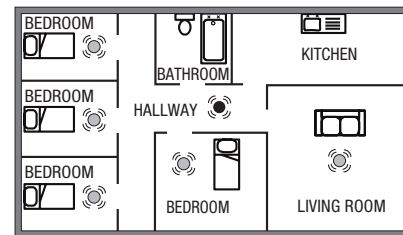

FIGURE 1. Single-level home
**Single-level home:** To achieve minimum protection, position the alarm in the entrance hall between the living areas (including the kitchen) and the sleeping areas. Position it as close as possible to the living areas, and make sure the alarm can be heard by anyone in the bedrooms. See Figure 1, for example: